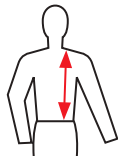

Figure 19: The Waist to Shoulder (WSL) Measurement
The System is available in sizes ranging from S to 2XL. Each size is characterized by a specific waist-to-shoulder length of the User as shown in Figure 19. Waist to Shoulder Length (WSL) is an important parameter for the choice of the right size of Back Protector (4). The User should always be sure to use a protector with a WSL that matches his/her measurements.